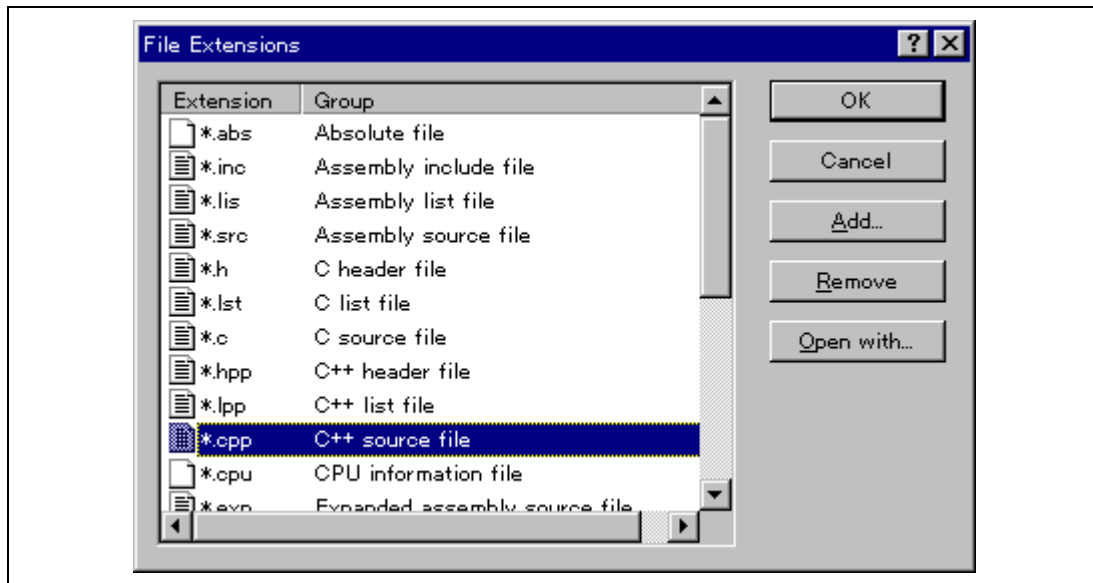
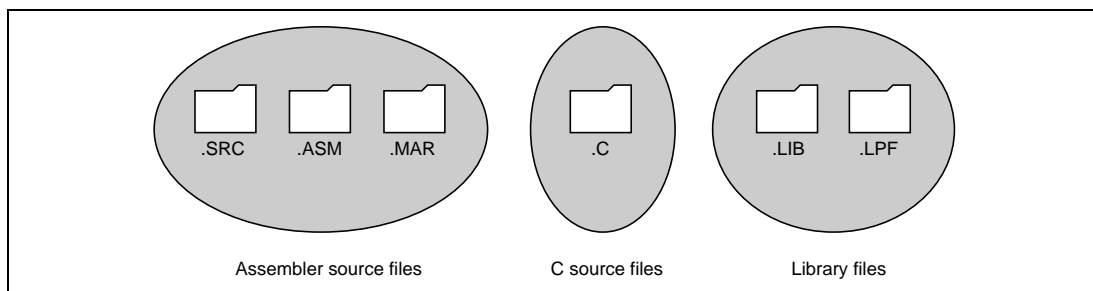

Figure 2.7: File Extensions Dialog
Figure 2.8: File Extensions and Groups
File extensions and file groups can be viewed and modified via the “File Extensions” dialog (figure 2.7). This is invoked by selecting **[Project->File Extensions...]**. This dialog displays all of the extensions and file groups, which are defined within the current workspace.
The “File Extensions” list shown in figure 2.7 is divided into two columns. On the left are the file extensions themselves, whilst on the right are the file groups. Many file extensions can belong to the same group. For example, assembler source files may have several extensions in a single project (e.g. .src, .asm, .mar etc) as shown in figure 2.8.
1. Select [**Project->File Extensions...**] from the menu bar. The “File Extensions” dialog will be displayed (figure 2.7).
1. Select **[Project->File Extensions...]** from the menu bar. The “File Extensions” dialog will be displayed (figure 2.7).